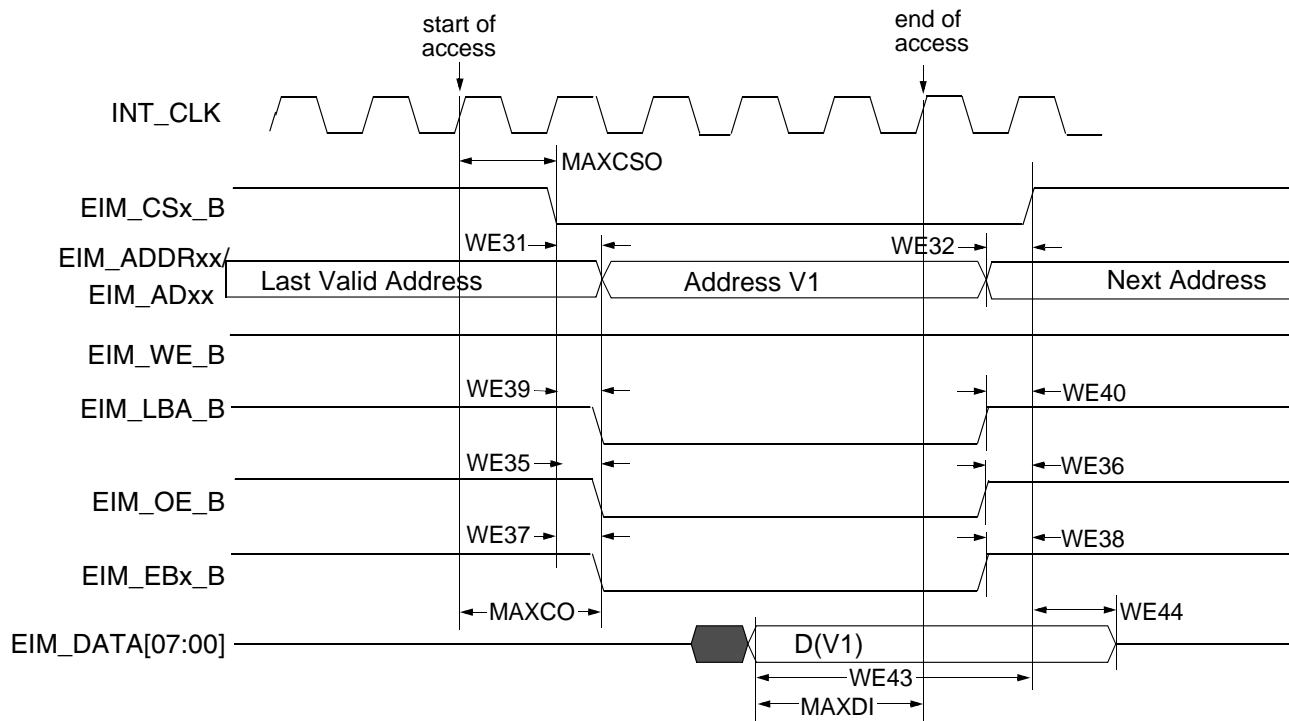
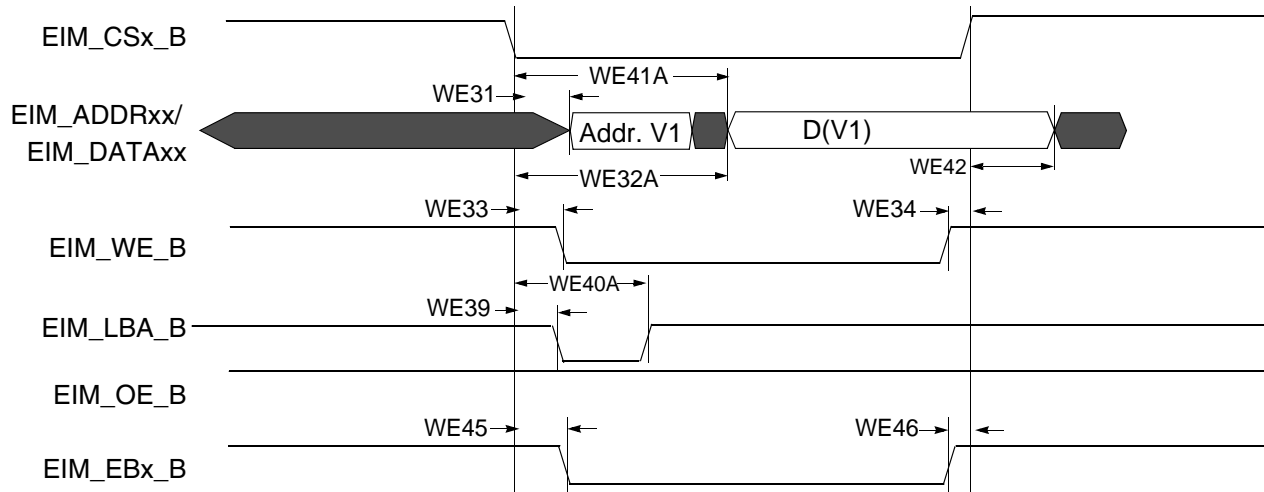
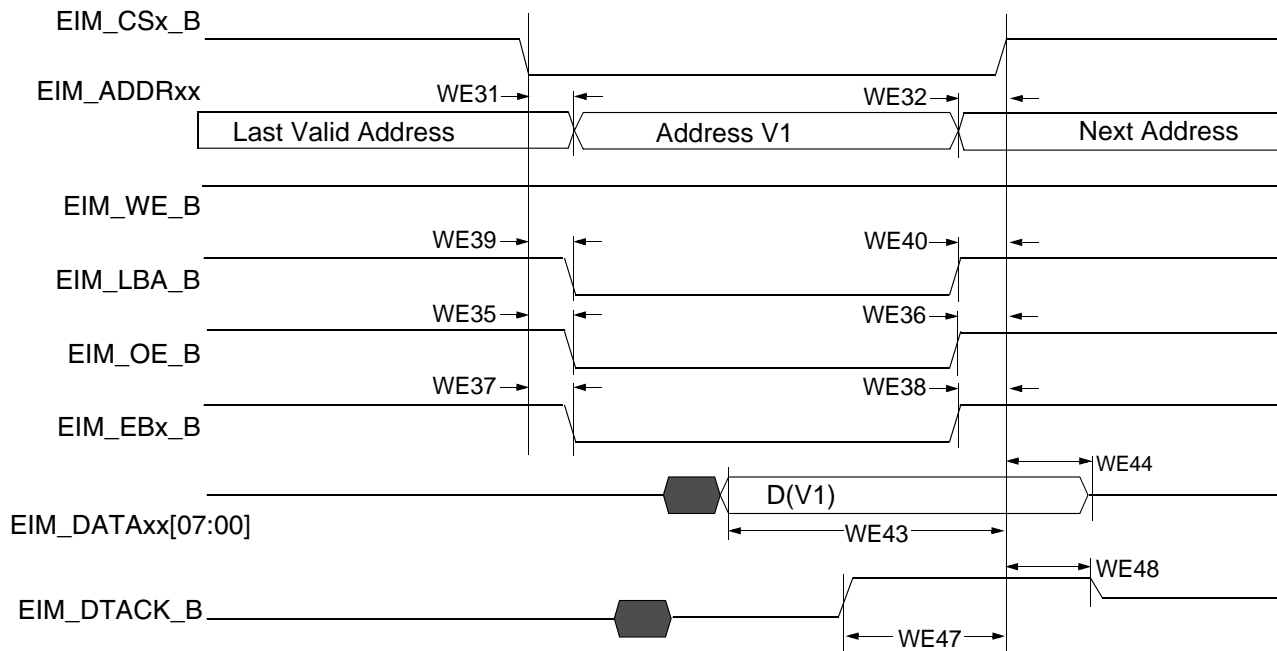

Figure 16. Asynchronous Memory Read Access (RWSC = 5)
Figure 19. Asynchronous A/D Muxed Write Access
Figure 20. DTACK Mode Read Access (DAP=0)
Figure 16 through Figure 20 and Table 37 provide timing parameters relative to the chip select (CS) state for asynchronous and DTACK EIM accesses with corresponding EIM bit fields and the timing parameters mentioned above.
Asynchronous read and write access length in cycles may vary from what is shown in Figure 16 through Figure 19 as RWSC, OEN & CSN is configured differently. See the i.MX 6DualPlus/6QuadPlus reference manual (IMX6DQPRM) for the EIM programming model.